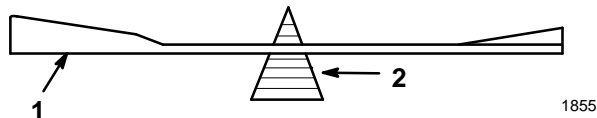

Figure 36
2. Check the balance of the blade by putting it on a blade balancer (Fig. 36). If the blade stays in a horizontal position, the blade is balanced and can be used. If the blade is not balanced, file some metal off the back side of the blade. Repeat this procedure until the blade is balanced.